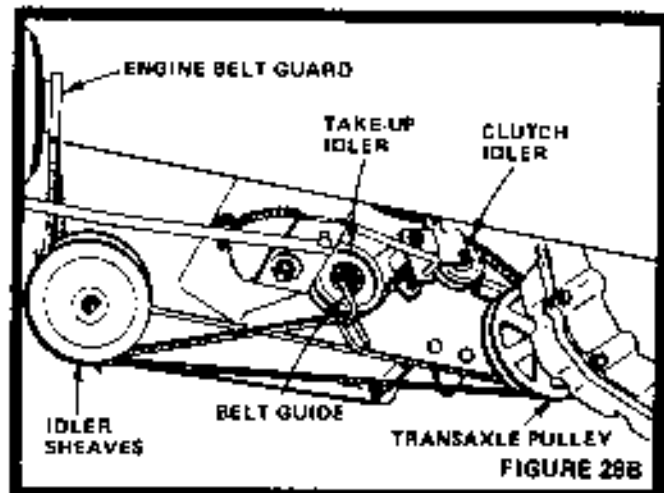

FIGURE 28B
- c. Remove Belt Guard from Engine Pulley (Fig. 28B) and remove Belt from Engine Pulley.
- e. Disassemble Dual Idler Sheaves and remove Belt (Fig. 28B).
- f. Loosen Nuts on Grooved Take-Up Idler and Flat Clutch Idler. Slip Belt free of Belt Guides (Fig. 28B).
- b. Position Belt on Grooved Take-Up Idler and Flat Clutch Idler (Fig. 28B). Tighten nuts.